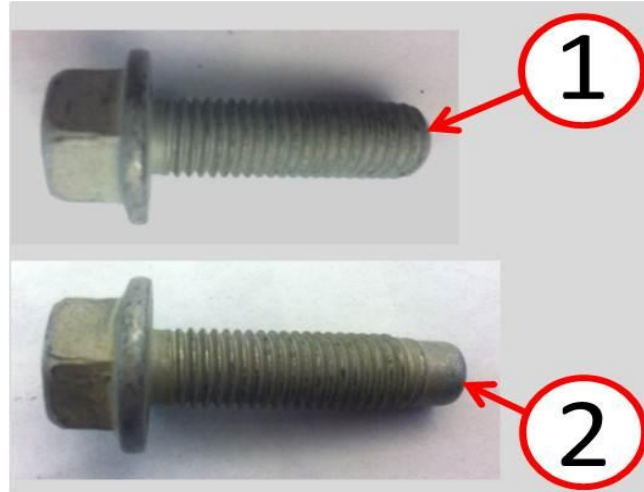

Fig. 5 Bolt Identification
8. Obtain the correct brake caliper adapter mounting bolts (1) and discard the incorrect bolts (2) (Fig. 5).